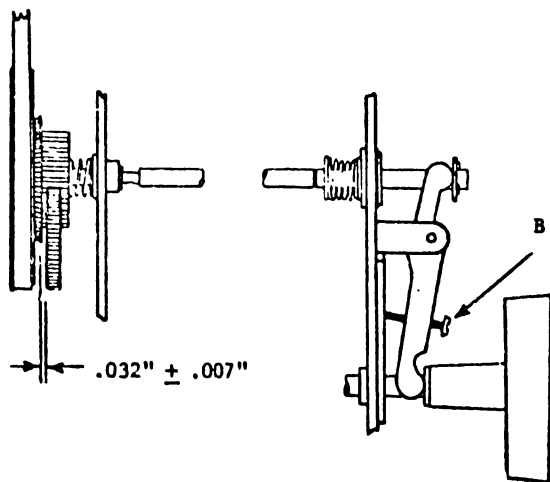
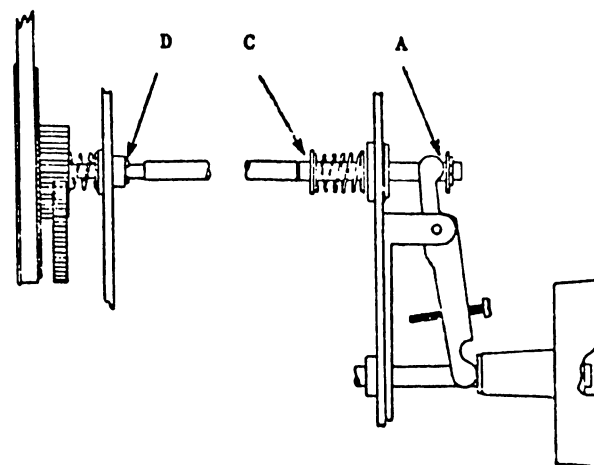

FIGURE 5-18 SPROCKET ADJUSTMENT
FIGURE 5-20 SPROCKET ADJUSTMENT
- 1) With each of the sprocket wheel covers closed, there should be a gap between cover and paper-feed sprocket of .025" to .039" (.64 mm to .76 mm). See Figure 5-18.
- 1) Remove horizontal vernier knob by removing allen screw from center of knob (Figure 5-20).
By using the horizontal vernier knob, push the vernier clutch in and out. With the use of a feeler gauge check for a clearance of  $.032'' \pm .007''$  ( $.081 \text{ cm} \pm .018 \text{ cm}$ ) between the idler gear and the cone gear as shown in Figure 5-18. Also when the knob is released after paper advancement the vernier clutch should fully re-engage flush with gear surface as shown in Figure 5-18. Also, when the knob is released after paper advancement, the vernier clutch should fully re-engage flush with gear surface as shown on Figure 5-20.
- 1) With clutch engaged (automatic advance) adjust allen screw in the center of horizontal vernier knob for a gap of  $.021'' \pm .004''$  ( $.053 \text{ cm} \pm .010 \text{ cm}$ ) between actuating arm and clutch rod washer (point A in Figure 5-20). (The screw can be adjusted through hole in horizontal vernier knob.)
- 2) With clutch disengaged (manual advance), adjust screw (B) for a  $.032'' \pm .007''$  ( $.081 \text{ cm} \pm .018 \text{ cm}$ ) gap between the cone gear and idler gear (Figure 5-18). (The screw can be adjusted through hole in horizontal vernier knob.)
- 1) Remove allen screw in center of horizontal vernier knob and slide knob off shaft. See Figure 8-5 of Section 8 and Figure 5-20.
- 2) Remove snap ring and washer from the extreme right end of the vernier activating rod. See Figure 5-20.
- 7) Remove snap rings, shaft spacers and two bushings from the vernier actuating rod and slide rod from the right to left out of the machine (Figure 5-20).